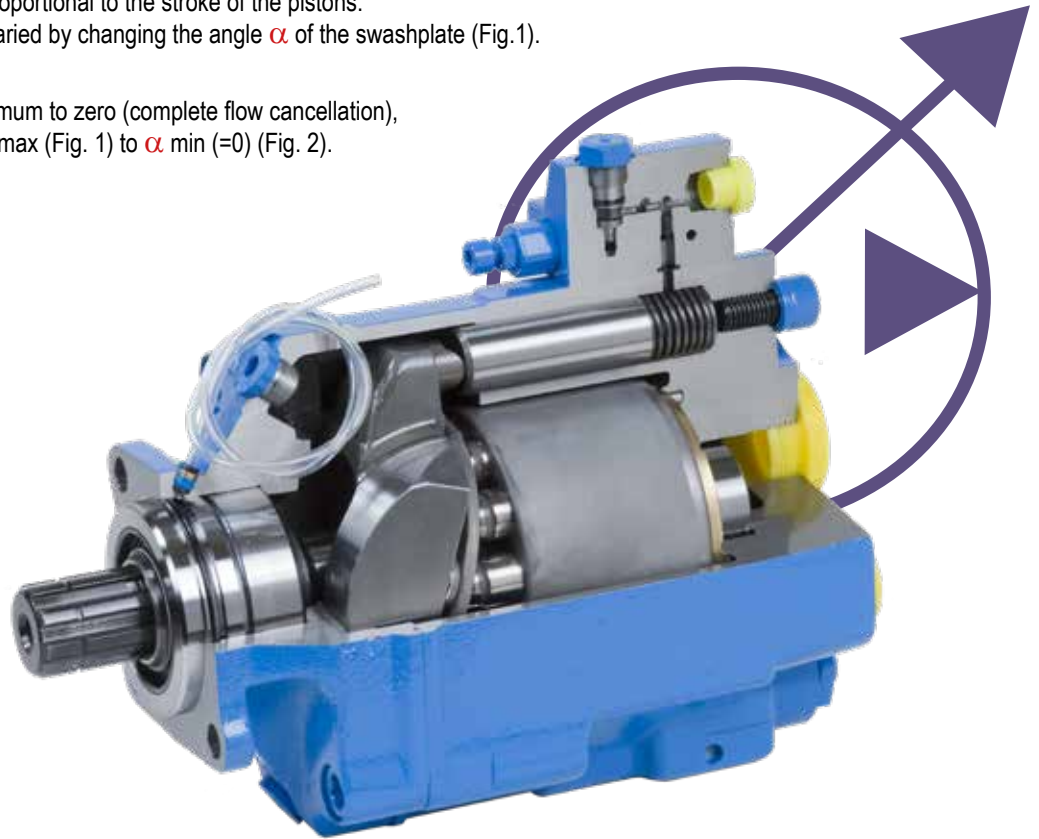

Figure 1 - Maximum displacement
- ▶ The displacement of the pump is proportional to the stroke of the pistons. Displacement – and thus flow - is varied by changing the angle  $\alpha$  of the swashplate (Fig. 1).
- ▶ To change displacement from maximum to zero (complete flow cancellation), the swashplate angle goes from  $\alpha$  max (Fig. 1) to  $\alpha$  min (=0) (Fig. 2).